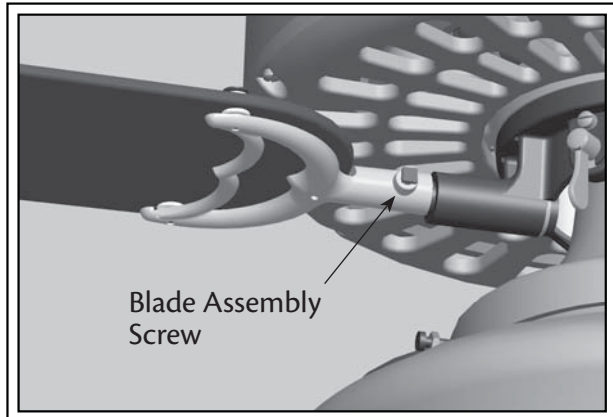

Fig. 15
3. Slide the blade assembly onto the Adapt Air blade shaft. (see Fig. 15).